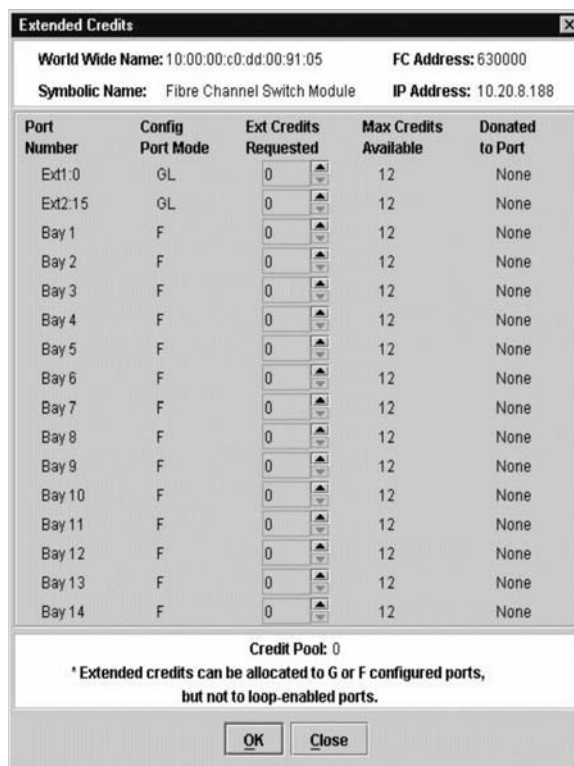

Figure 20. Extended Credits window
2. In the Faceplate window, select the recipient port. Recipient ports must be external ports configured as G_Ports or F_Ports. Click **Port>Extended Credits**. The Extended Credits window opens as shown in Figure 20